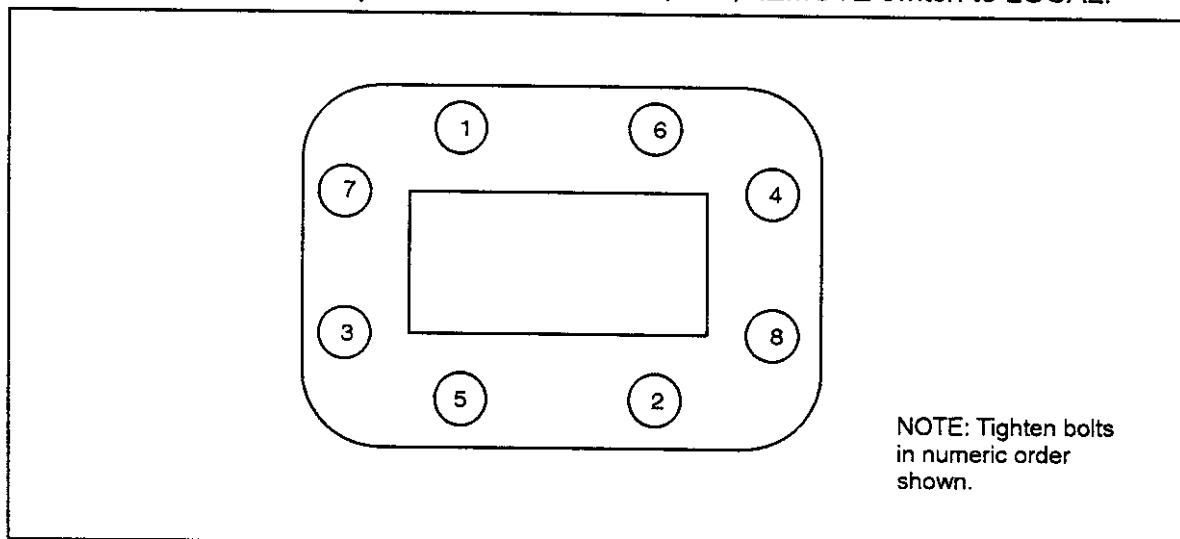

Figure 41. Wave Guide Bolt Tightening Alternating Cross-over Pattern.
- b. Using an alternating cross-over pattern, as shown in Figure 41, tighten each bolt 1 turn.